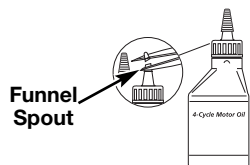

Fig. 7
Your unit is supplied with one 3.04 fluid oz. (90 ml) bottle of SAE 30 SF, SG, SH oil (Fig. 7).
1. Unscrew the top of the bottle of oil and remove the paper seal covering the opening. Replace the top. Next, cut the tip off the funnel spout (Fig. 7).